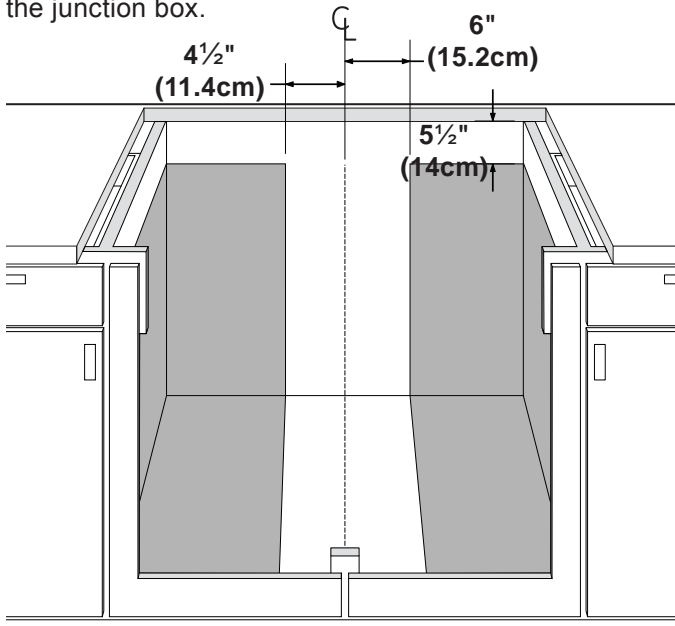

Figure 4 – ELECTRICAL OUTLET INSTALL DIMENSIONS
2. The appliance should be connected to the fused disconnect (or circuit breaker) box through flexible armored or nonmetallic sheathed cable. The flexible armored cable extending from this appliance should be connected directly to the grounded junction box. The junction box should be located as shown in Figure 4 with as much slack as possible remaining in the cable between the box and the appliance, so it can be moved if servicing
Install the junction box under the cabinet within shaded area shown in Figure 4 and run 120/240 or 120/208 Volt, AC wire from the main circuit panel.